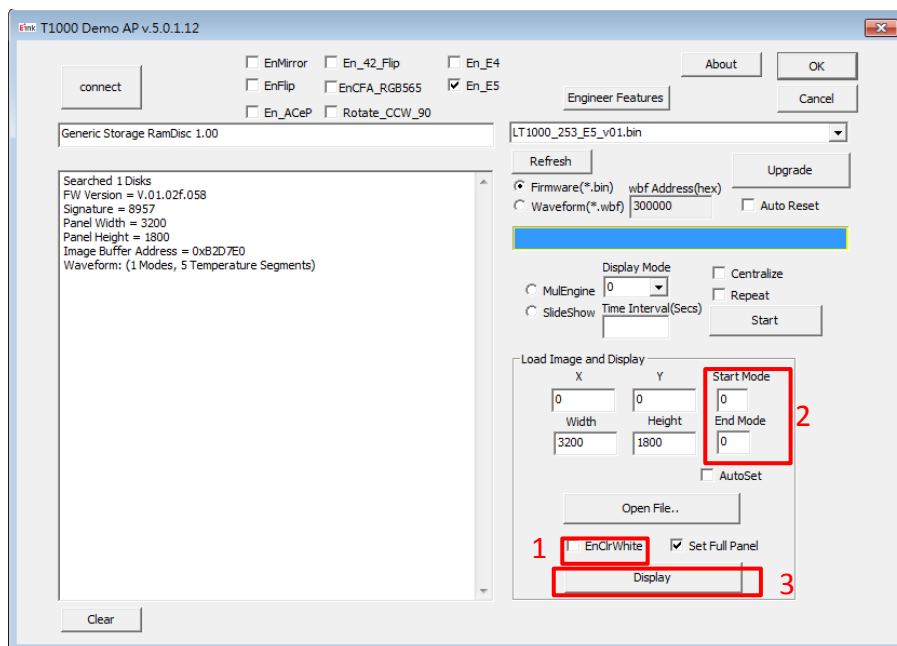

Figure 3.3
(1) How to minimize artifact
- ◆ Execute T1000 Demo AP(refer to Fig 3.3)